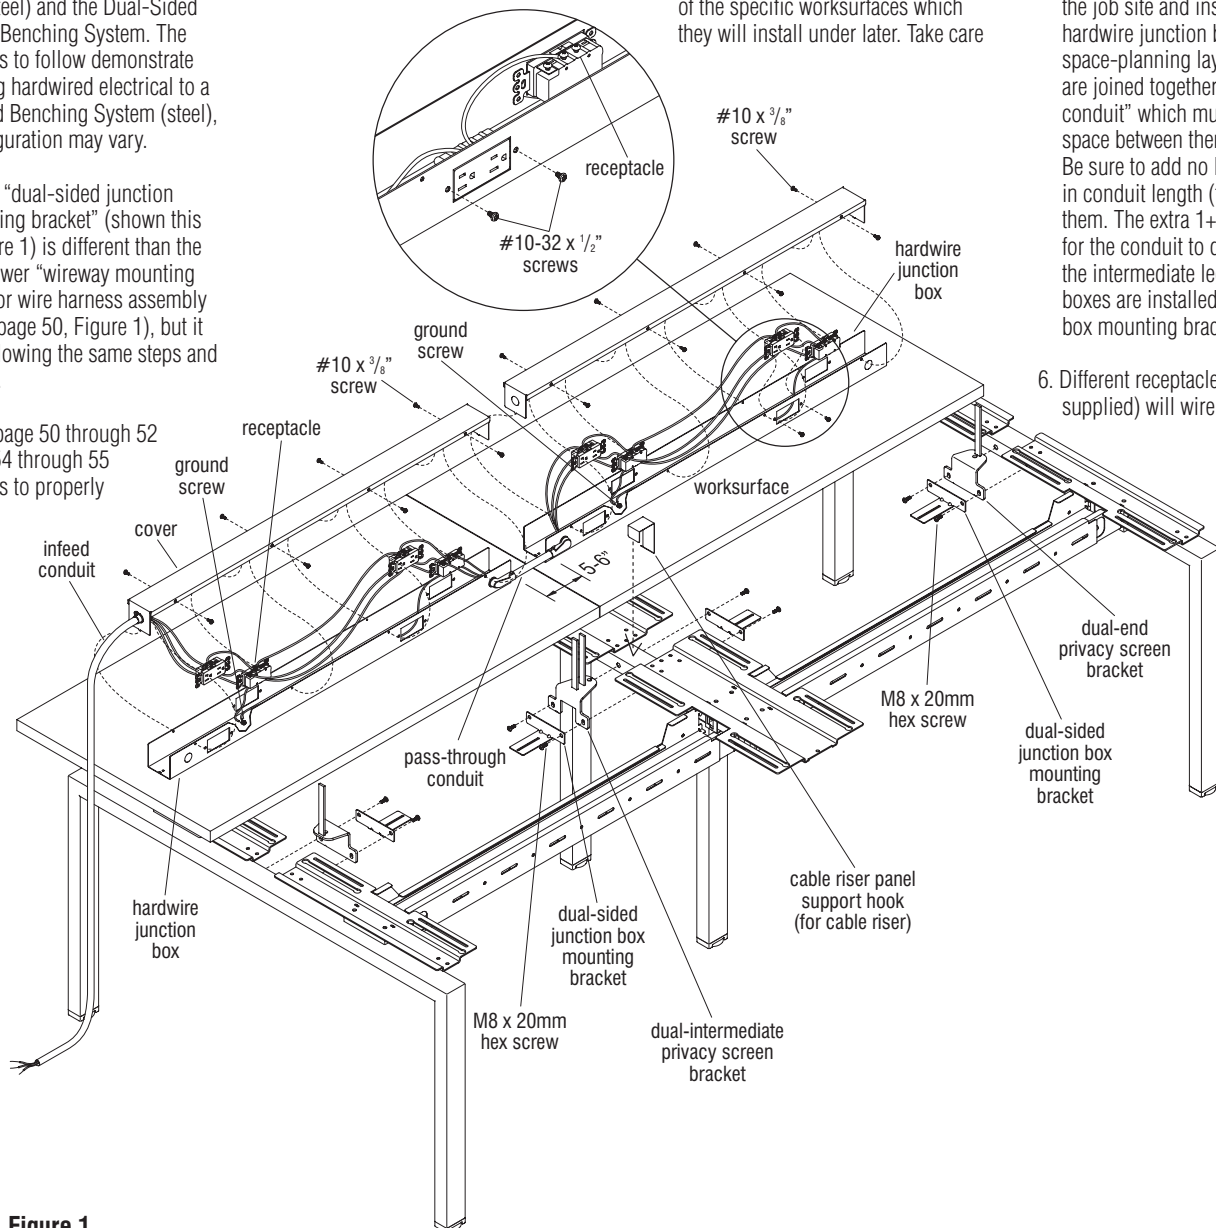

Figure 1
Note: The "dual-sided junction box mounting bracket" (shown this page, Figure 1) is different than the 10-wire power "wireway mounting bracket" (for wire harness assembly shown on page 50, Figure 1), but it installs following the same steps and guidelines.
install the "top infeed support bracket" (shown on page 52, Figure 4 - not shown on this page), any required privacy screen brackets, as well as the "dual-sided junction box mounting bracket" and "cable riser panel support hook" (if required), shown on this page (Figure 1).
4. Place hardwire junction boxes onto the worksurfaces and stage boxes in the order and location specified by the space-planning layout. Remove the junction box covers and set aside (Figure 1).
5. Follow all state and local codes at the job site and install wiring to hardwire junction boxes per the space-planning layout. The boxes are joined together by "pass-through conduit" which must have a 5-6" space between them (step 8 below). Be sure to add no less than 1" extra in conduit length (to be 6") between them. The extra 1+" is added to allow for the conduit to drape up and over the intermediate leg top when the boxes are installed to the junction box mounting brackets (Figure 1).
Note: Depending on the type of receptacle used, determine if the individual wires will attach to the receptacle before or after they are mounted to the specified locations in the hardwire junction boxes. To mount receptacles to the box, position receptacles inside the box with the receptacle face through the opening, then secure the box to the receptacle using two #10-32 x 1/2" screws (Figure 1).
7. Complete the wiring of receptacles, then secure the covers to the hardwire junction boxes using #10 x 3/8" screws at all required locations per box as illustrated (Figure 1).